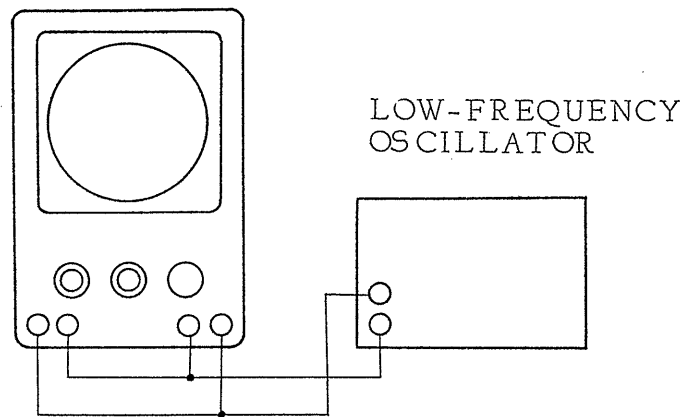

Fig. 6
- (1) Set the SWEEP RANGE switch to the EXT position. Apply to the vertical input terminal and EXT HORIZ IN terminal the sine wave output of a low-frequency oscillator as shown in Fig. 6, and measure the intrinsic phase difference of the oscilloscope.